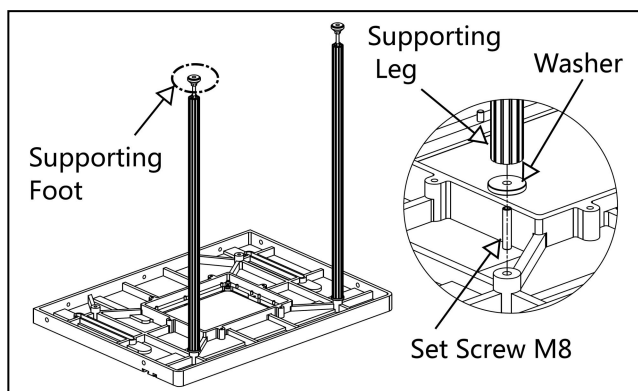

Fig. 11
1. As shown in Fig. 11, mount the supporting legs to the router table. Adjust the supporting feet until the distance between the feet and the router table is almost as same as the height of the table saw. Do not lock the supporting feet at this time, so as to facilitate subsequent adjustment.